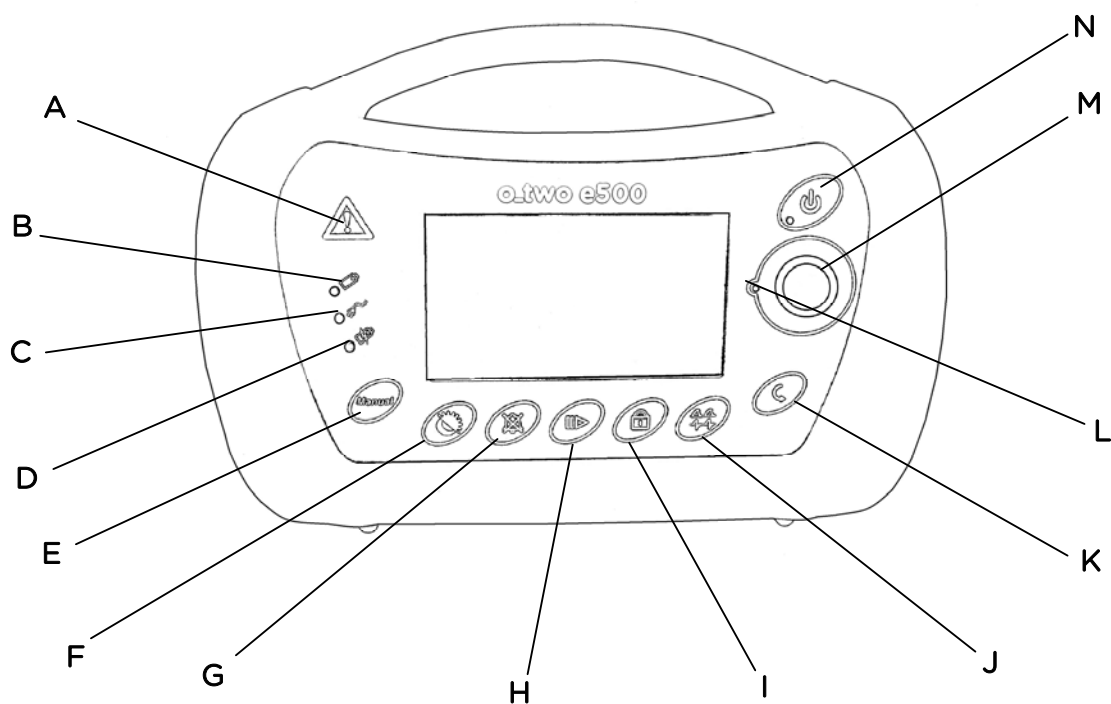

Figure 1
While all ventilation parameter settings are controlled by the Control Selection Knob (M) in Figure 1, there are a number of key membrane buttons which control additional ventilator functions:
To turn on the ventilator, Press the ON/OFF button (N) in Figure 1 for one second, during that second the associated green LED will start flashing at a high frequency. After 1 second the ventilator will turn on but without ventilation until the appropriate tidal volume/frequency combination is selected from the dial. If the button is pressed and released for less than a second, the ventilator will remain OFF.
The Control Selection Knob (M) in Figure 1 is used to navigate between parameters, change modes, select primary function change when rotated, and to confirm function changes when pressed.
- 1- Press Lock button (I) in Figure 1. The Lock symbol will be displayed on the screen.
- 2- To cancel the Lock function, press the Lock button (I) again.
Alarm Silence button (G) in Figure 1 will silence audible alarms for 120 seconds. It can also be selected when there is no alarm in order to silence potential alarms. This function is activated or deactivated by pressing the Alarm Silence button once.
Pressing Waveform selection button (J) in figure 1 will switch between the pressure and volume ventilation waveforms displayed on the screen.
Day/ Night mode button (F) in Figure 1 will change brightness and contrast of the text, waveform and background colors. The user can select either one of the following by pressing the Day/ Night button once:
The Cancel button (K) in Figure 1 allows the operator to return to the previous settings if the last unconfirmed changes in settings are not required.
During activation of the Pause/ Resume button (H) in Figure 1, the ventilator will stop ventilating with all buttons kept active (if they are not locked) except Manual/ Hold button.
- a. During Pause, there will be an audible alarm associated with the flashing yellow Warning indicator (A) in Figure 1 every 15 seconds. Users can press Alarm Silence button to disable the audible alarm for 2 minutes but the yellow Warning indicator will continue flashing every 15 seconds.
4. To cancel Pause function, press Pause/ Resume button (H) again. The "Resume" symbol will flash on the screen with the confirmation symbol  and the Confirmation indicator (L) to guide users to resume ventilation by pressing the Control Selection Knob (M).
During exhalation phase, if Manual/ Hold button (E) in Figure 1 is pressed, a mandatory breath will be initiated and either the flow rate or set pressure control parameter will be delivered as long as the Manual/ Hold button is pressed or until I-time setting is achieved.